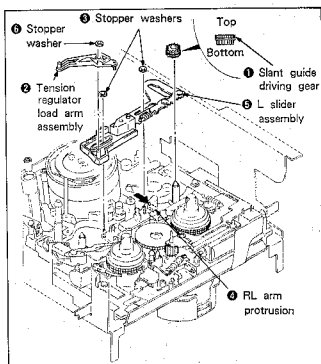

Fig. 7-30.
Removal (See Fig. 7-30.)
Fix the two stopper washers ③. (See Fig. 7-30.)